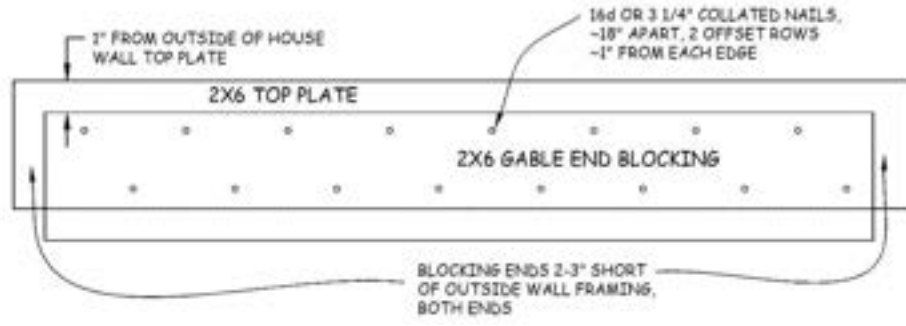

Figure 5-9. Gable End Blocking.
1. Install 2x6 blocking along the top of both gable end walls keeping each end 2"-3" short of the outside top wall plate. Hold the 2x6 back 1" from the exterior of the top plate (using a piece of 1" foamboard as a guide works well). Nail the entire length with 16d (or 3¼" collated) nails staggered every 12". The 2x6 overhangs the plate on the interior side of the wall and serves as ceiling sheetrock blocking. See Figure 5-9.